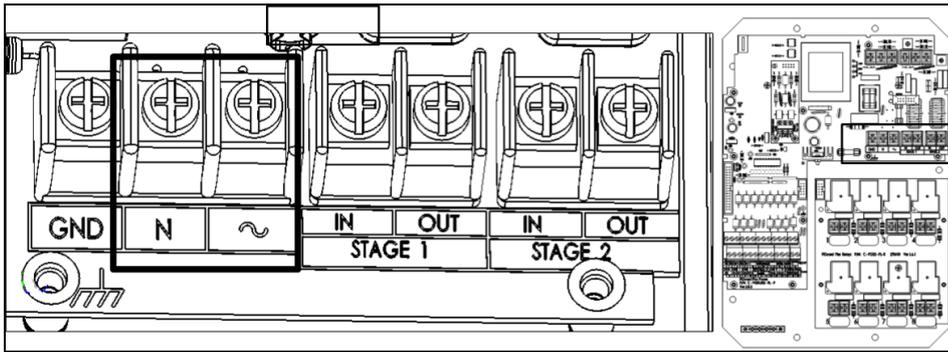

Figure 4: Input power ports
5. Using the voltmeter, place the probes on  $\sim$  and **N** (Figure 4). The voltmeter displays the Pig Guard voltage power input.